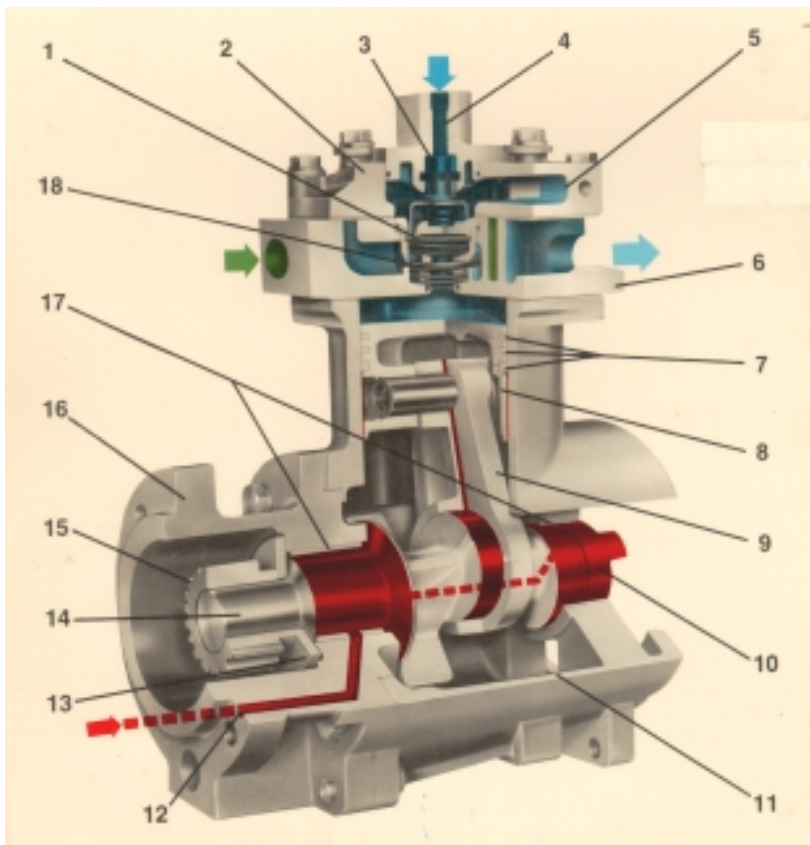

Fig. 8-4. Air Compressor
1. Remove the capscrews, flat washers and lockwashers securing the unloader valve assembly to the cylinder head cover. Remove the unloader valve assembly and spring from the cylinder head and cover, Fig. 8-4.